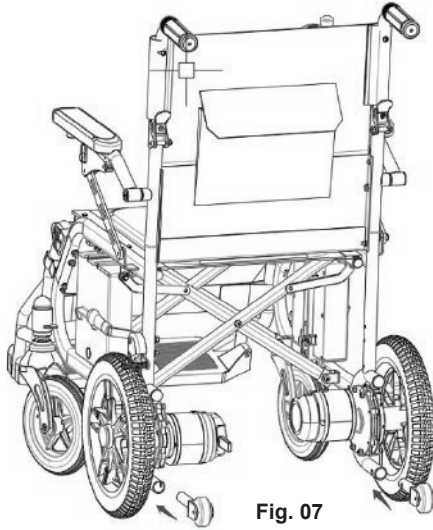

Fig. 07
- a. Align anti-tilt wheel with the anti-tilt pipe of the frame, insert to the frame (**Fig.07**).